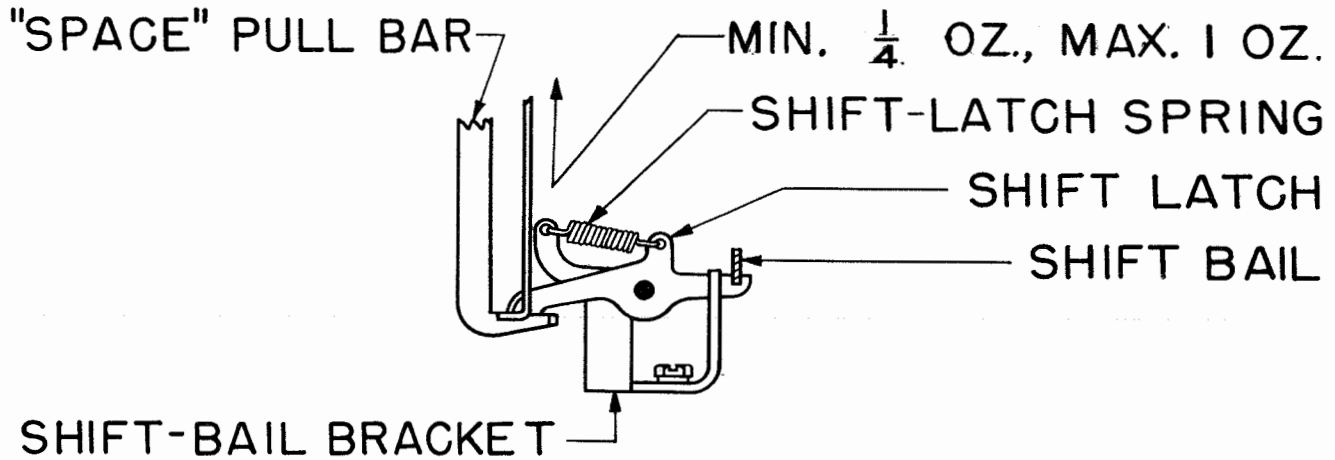

Figure 37
2.55 Shift-latch Spring: It shall require a pull as indicated in Figure 37 to start the shift latch moving with the main shaft in the stop position.